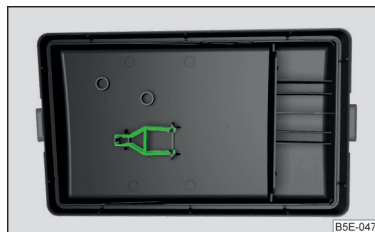

Fig. 218
- Remove the plastic clip under the cover of the fuse box in the engine room » Fig. 218 on page 226.